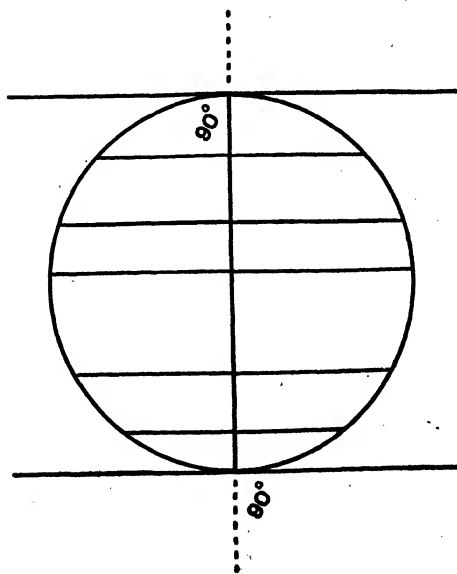

FIG. 37. PARALLEL CHORDS, DIAMETER AND TANGENTS
I. The children draw a circle and place in it a number of parallel chords. They mark the mid-points of the chords and notice that the line joining these middle points is a diameter at right angles to the chords, Fig. 37. This is linked up with Stage 24.